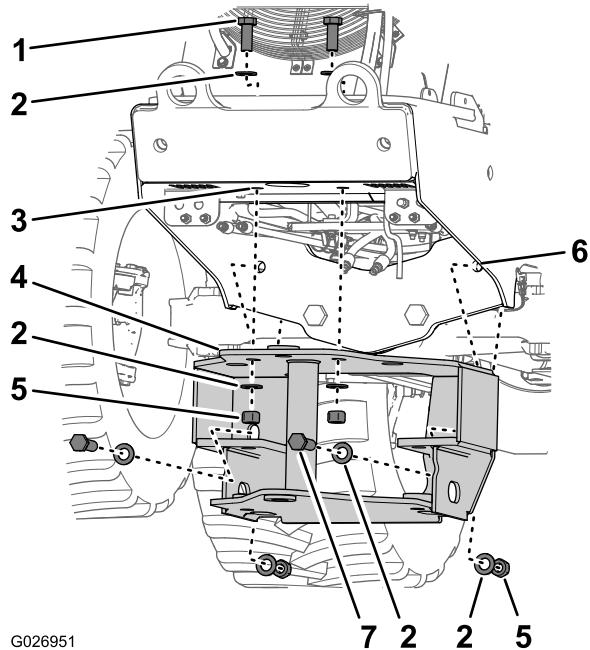
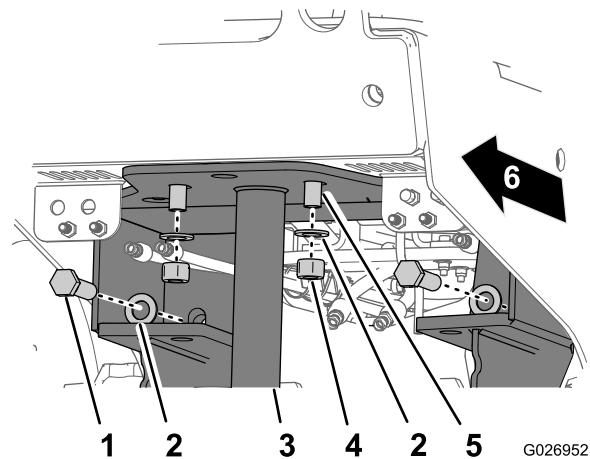
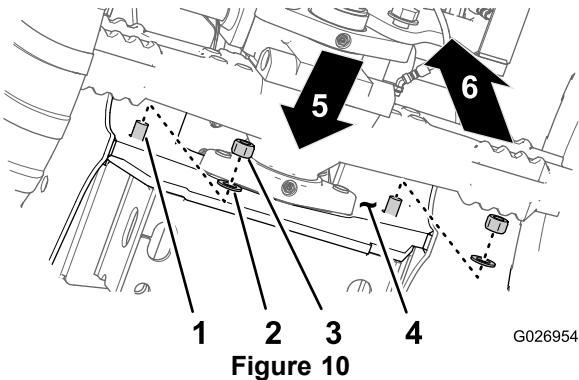
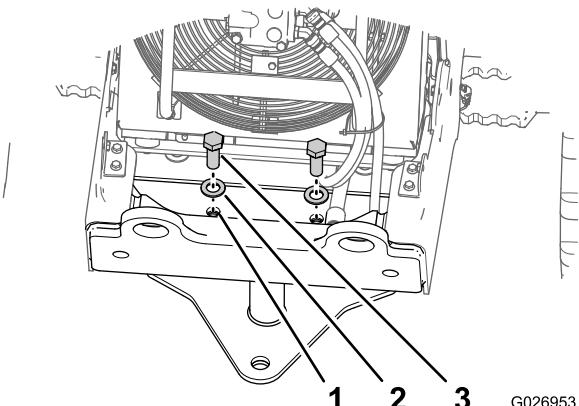

Figure 8
Figure 9
Figure 10
Figure 11
- Align the 2 horizontal 25 mm (1 inch) holes in the mounting frame with the 2 horizontal holes in the front axle support (Figure 8).
- Align the 2 vertical 25 mm (1 inch) holes in the mounting frame with the 2 vertical in the bottom frame plate of the machine (Figure 8).
- Assemble 2 bolts (1 x 3-1/2 inch), 2 washers (1 inch), and 2 locknuts (1 inch) through the horizontal holes in the mounting frame and the front axle support (Figure 8, Figure 9, and Figure 10).
5. Assemble 2 bolts (1 x 2-1/2 inch), 2 washers (1 inch), and 2 locknuts (1 inch) through the vertical holes in the mounting frame and the bottom frame plate (Figure 9 and Figure 11).